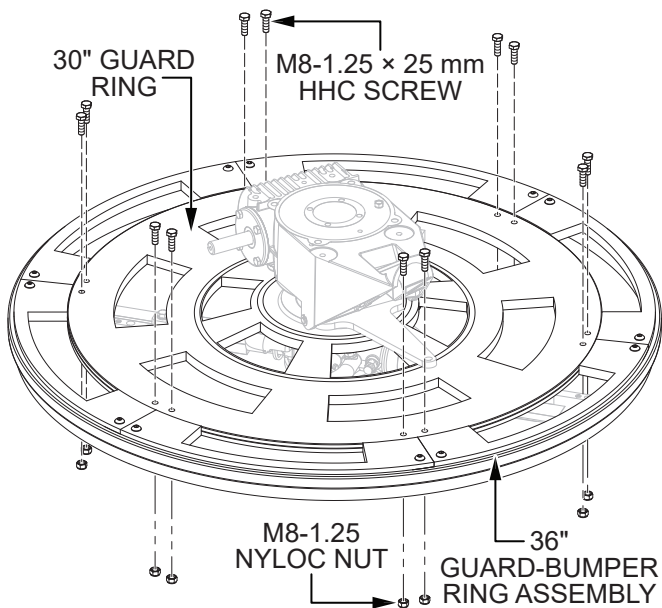

Figure 23. 36-Inch Guard-Bumper Ring Assembly Installation
4. Secure the 36-inch guard-bumper ring assembly to the 30-inch guard ring with the twelve M8-1.25 x 25 mm HHC screws and M8-1.25 nyloc nuts (Figure 23).